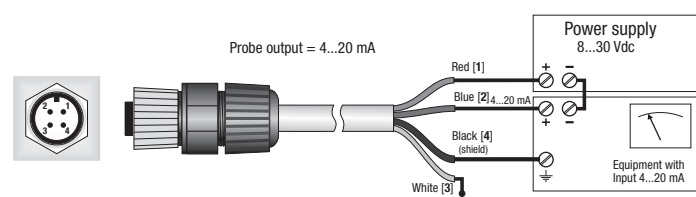

Figure 4.2: Connection diagram of LP UVI 02 AC.
- The LP UVI 02 AC, with an adequate power supply, can be connected to a multimeter or to a data logger according to the following scheme (Figure 4.2), the load resistance for the reading of the signal must be  $\approx 500$  W: